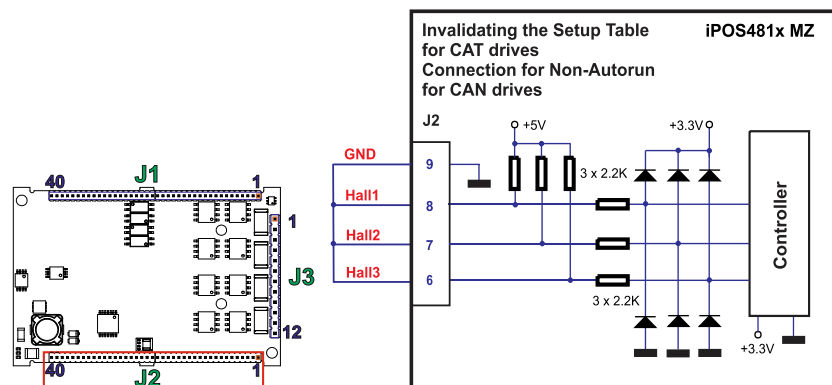

Figure 2.33. Temporary connection during power-on to remove the drive from Autorun mode or invalidate the Setup table
- c) Hardware2 – by temporary connecting all digital Hall inputs to GND, during the power-on for about 1 second, until the green LED is turned on, as shown in **Figure 2.33**. This option is particularly useful when it is not possible to communicate with the drive.